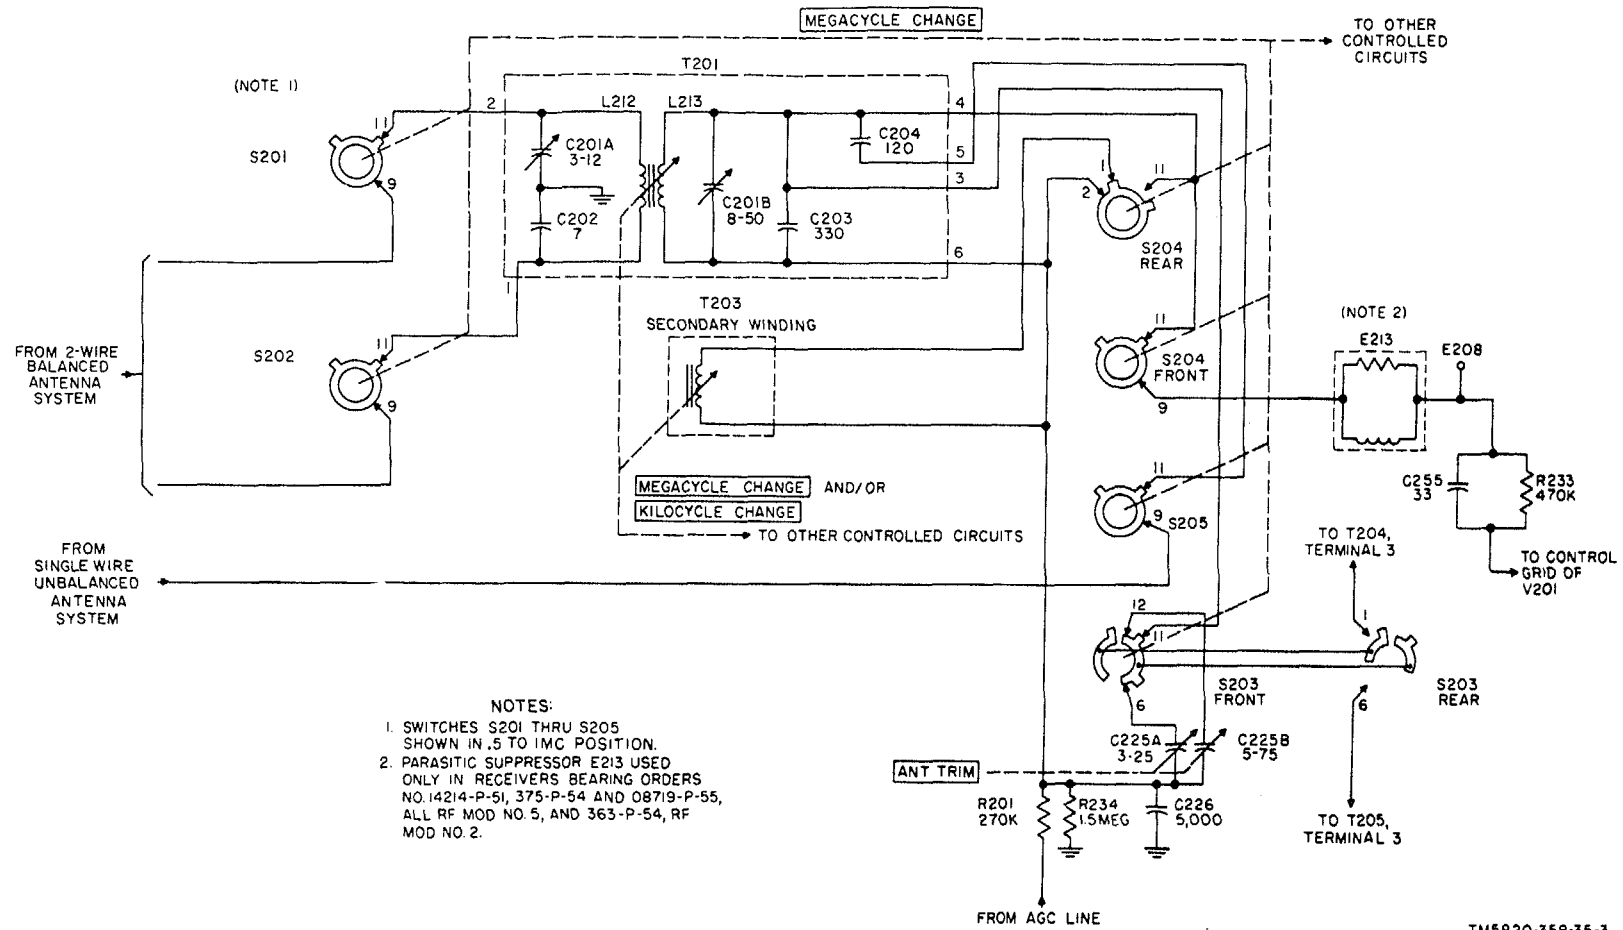

Figure 2. RF band switches S201 through S205, simplified schematic diagram.
c. Figure 2 shows rf band switches S201 through S205 in the 0.5- to 1-mc positions. This corresponds to frequency indicator setting of 00. The two-wire antenna signals are fed through S201 and S202 to the coil corresponding to the frequency indicator setting. The two-wire antenna is balanced across primary L212 of antenna transformer T201 by series-connected capacitors C201A and C202. Capacitor C201A permits adjustment of the balance. When a
d. Capacitor C201B is used during alignment. ANT TRIM capacitor C225 is used to obtain maximum signal transfer from the antenna to the input of the receiver. Capacitor C203 is also connected across L213 in parallel with C201B and C225. This provides the additional capacitance necessary to tune L213 to resonance at the correct frequency. The individual sections of C225 are switched by S203 front and rear (fig. 2) from parallel to series or out of the circuit, depending on the frequency to which the receiver is tuned. The chart in paragraph 30e lists the details of the switching scheme.
(fig. 2 and 3)